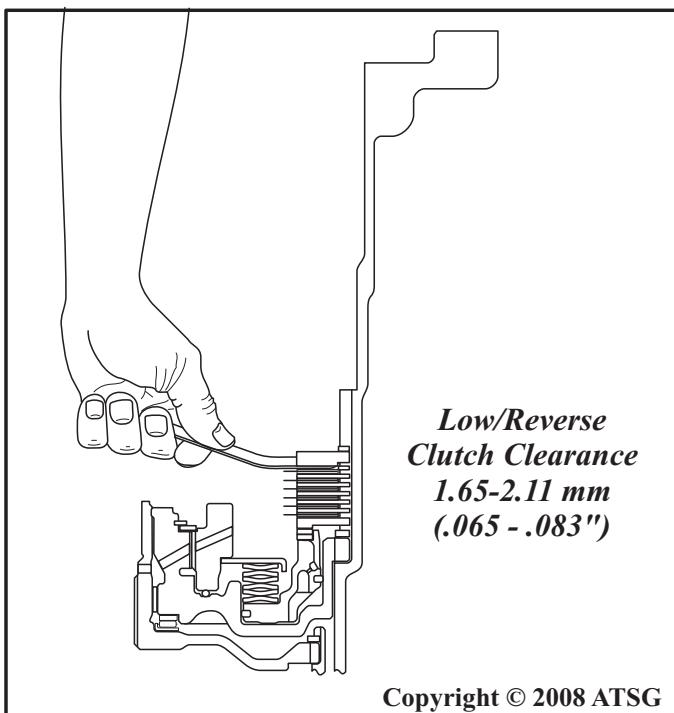

Figure 196
32. Measure the low/reverse clutch clearance using a feeler gauge *carefully*, between top friction and pressure plate, as shown in Figure 196.